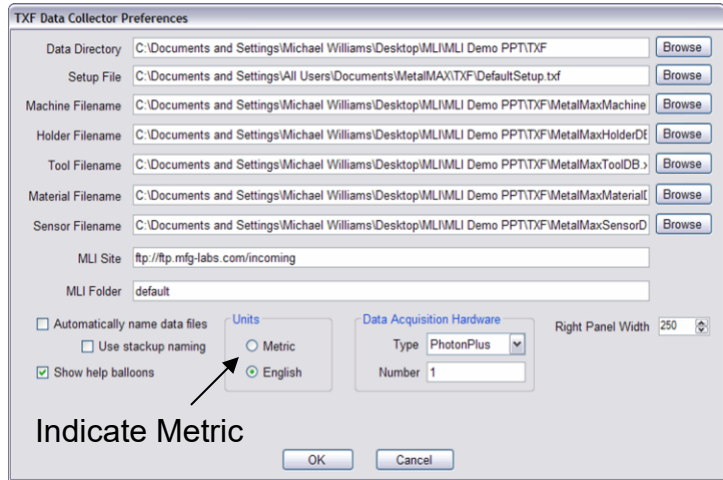

Figure 62: Preferences Menu
Step 3: Start TXF and press F12 or select from the pull down menu “Preferences”. The screen shown in Figure 62 will appear. Please insure that “Metric” units are selected.